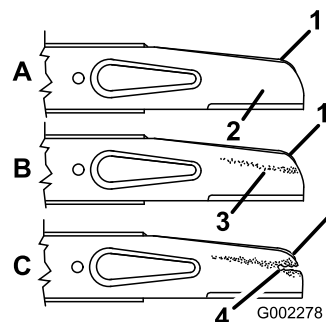

Figure 26
8. Use your finger to coat the gasket on the new oil filter with oil (Figure 26).
2. Remove the blade nuts, the accelerator, and the blade (Figure 26).